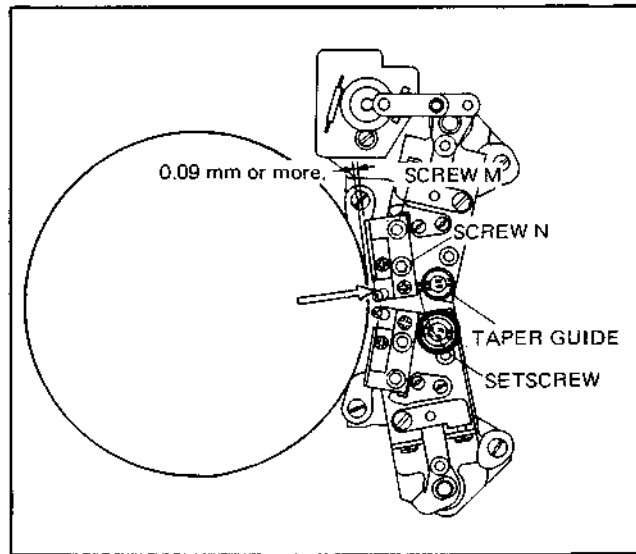

Fig. 3-87. Overlap C Adjustment
1. Loosen screw N shown in Fig. 3-87. 1/2 to 1 turn.